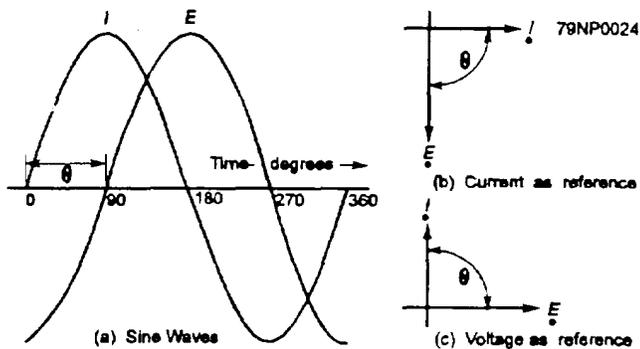

Figure 3-25.—Waves and vectors of alternating current and voltage in a circuit containing only capacitance.
Now, look at figure 3-25, which shows the current (I) leading the voltage (E) by θ degrees. Using the memory hint ICE— **current leads voltage in a capacitive circuit** —you can remember this vector. Since current leads voltage by θ degrees, the vector representing voltage is in a clockwise or negative direction from the vector representing current.